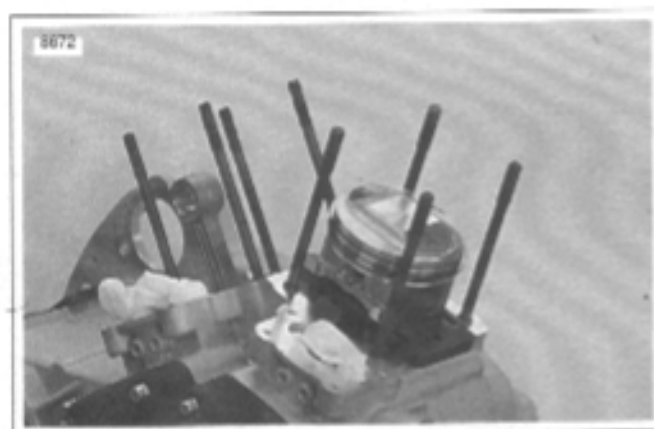

Figure 3-110. Piston Support Plate
6. See Figure 3-110. Turn engine until piston is resting on top of PISTON SUPPORT PLATE (Part No. HD-42322).